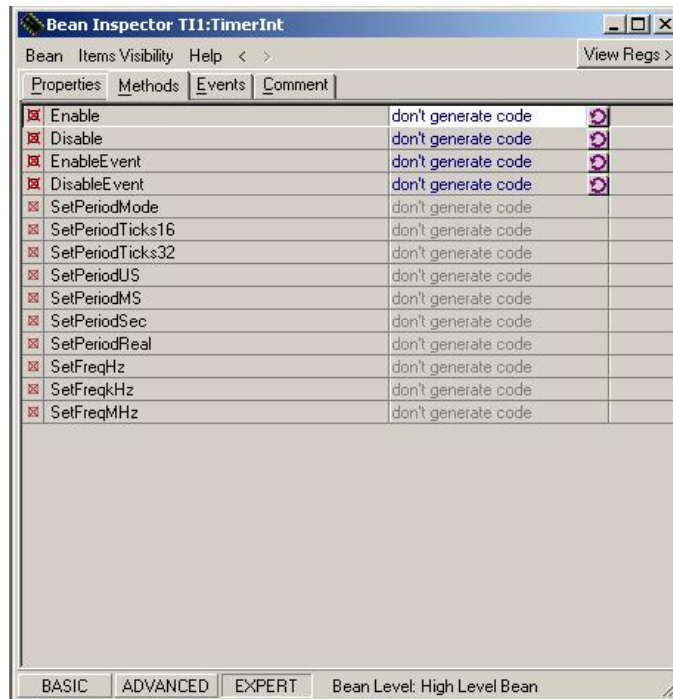

Figure 15. Bean Inspector Window - Methods for TimerInt Bean
- Figure 15 shows the Methods tab in the Bean Inspector window. This window by default has no Methods created. If needed select which Methods to create by selecting the Methods tab in the Bean Inspector window. Click the round arrow button(🔄).